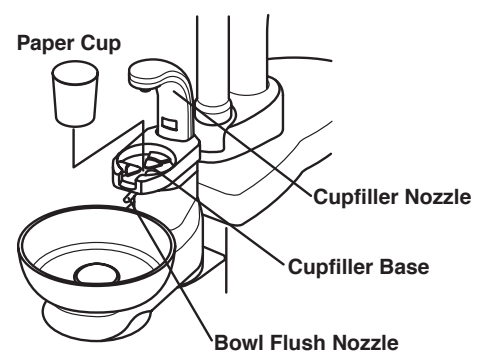

Fig.3-22 Sensor Cupfiller
(5) Sensor Cupfiller (Optional) (Fig.3-22)